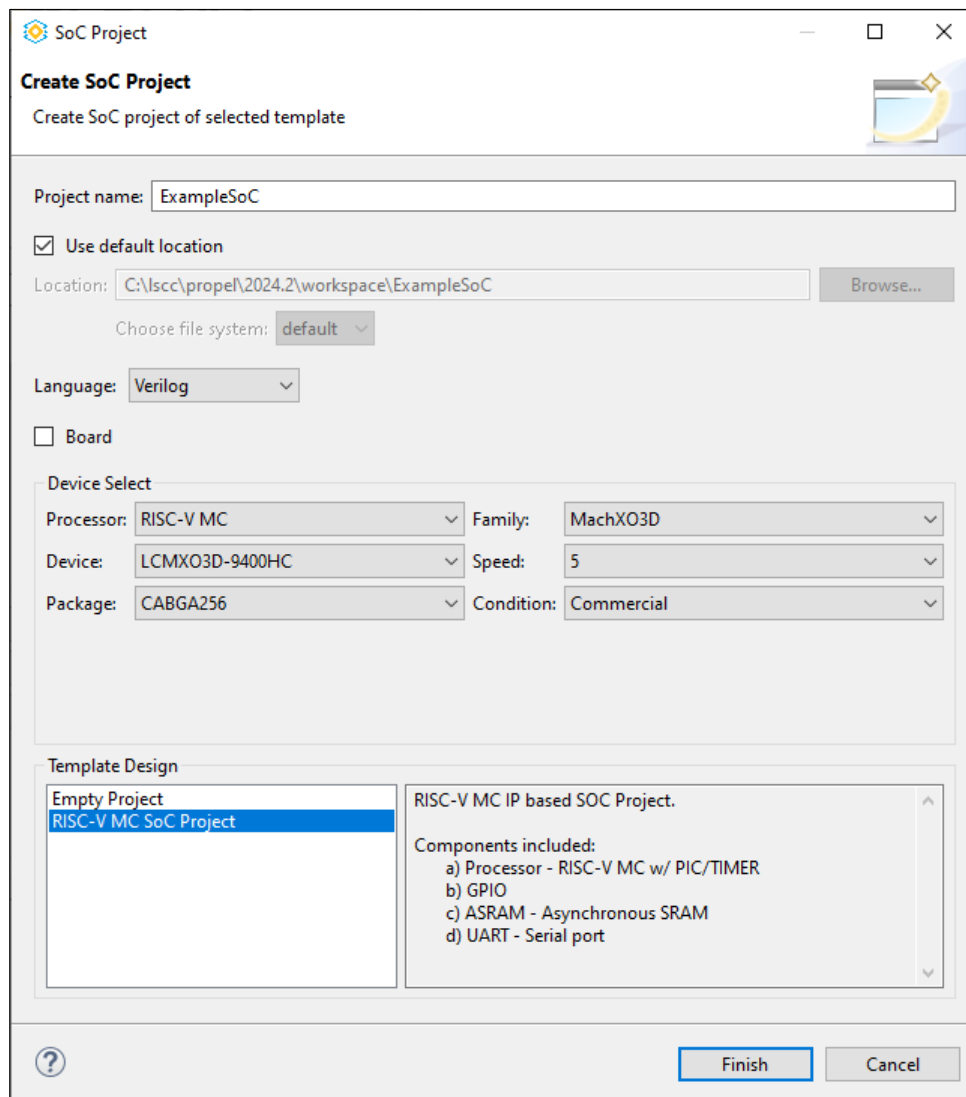

Figure 3.12. Specify a Device for Template SoC Project
The **Create SoC Project** wizard opens (Figure 3.12). In the **Create SoC Project** wizard, you can specify a device or a board for a Template SoC project.
- To specify a device for your new Template SoC project, use the drop-down menu to select the desired device information, including **Processor**, **Family**, **Device**, **Package**, **Speed**, and **Condition**. Also, select RISC-V SoC Project or Empty Project in the **Template Design** field (Figure 3.12).